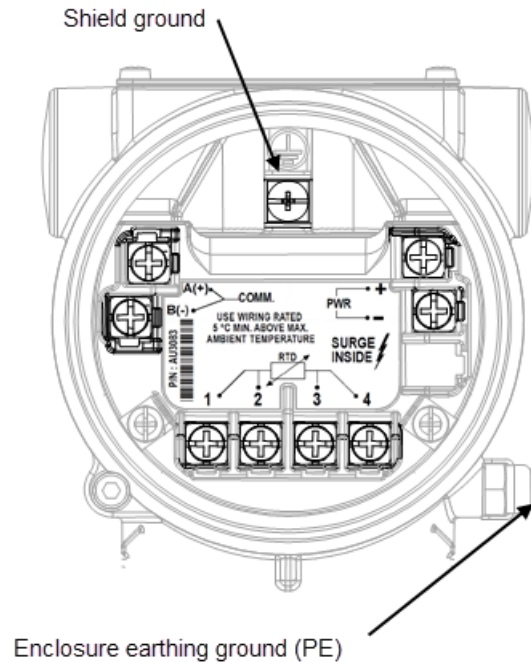

Figure 24: Ground connections
A terminal is available on the transmitter exterior for connection to an earth ground or potential equalization (PE) grid (Figure 24). A connection for attaching wiring shields is located inside of the rear housing cover. For additional field wiring requirements see the following publications:
For correct operation of the suppression system a high-current path to earth ground or potential equalization (PE) grid is required (Figure 24). Section 3.6.1, *Protective conductor and grounding*, includes additional information on grounding the transmitter.